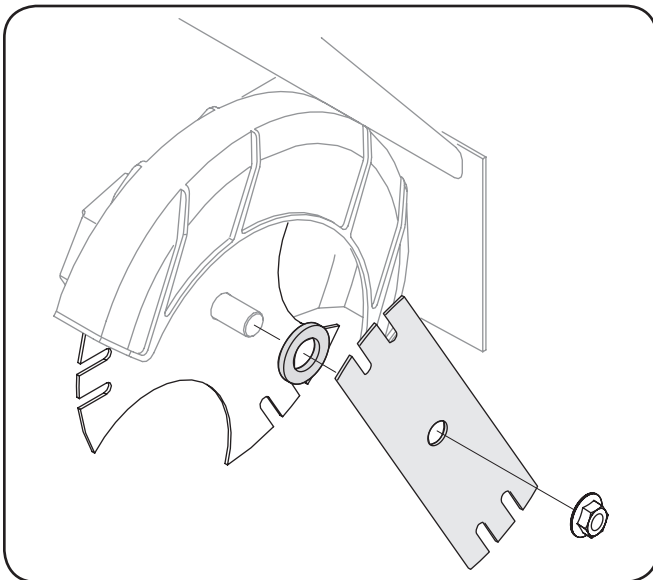

Figure 5-4
1. Use two wrenches (one wrench to prevent the hex bolt head from spinning and the other to unthread the flange nut) to remove the flange nut that secures the edger blade, leaving the edger blade in place. See Fig. 5-4.
2. Install the additional edger blade supplied with your machine and the flat washer. See Fig. 5-4.